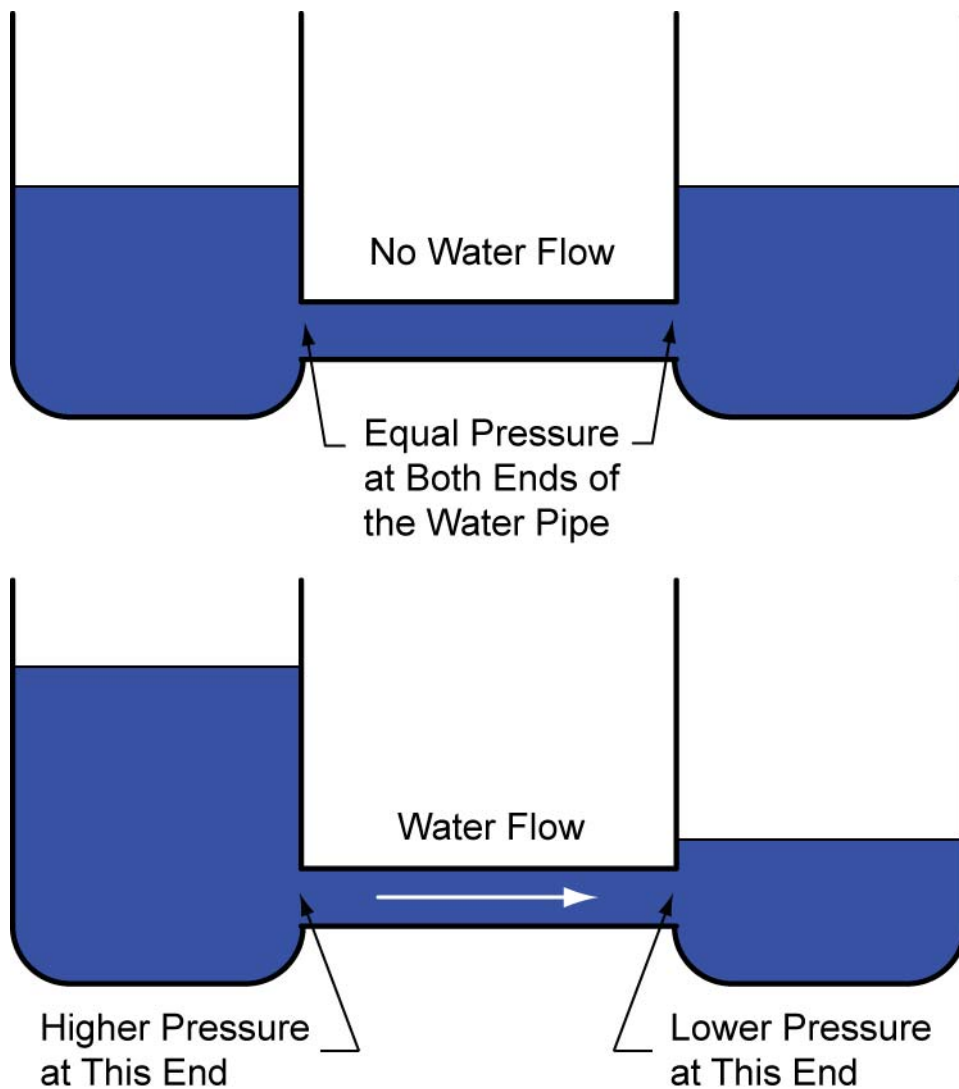

Figure 10: Difference in Pressure Creates Water Flow in a Pipe
- **Voltage (Units in Volts, V):** In general terms, voltage can be thought of as a pressure that is exerted on electrons which causes them to move or flow in a conductor. If we compare electric current to water flowing through a pipe, then voltage would be analogous to water pressure. If a pipe has the same water pressure at both ends, no water flows. For water to flow through a pipe, it is necessary to have a difference in water pressure (measured in psi) between the two ends (Figure 10). With higher water pressure, more water is forced through a pipe in a given time.